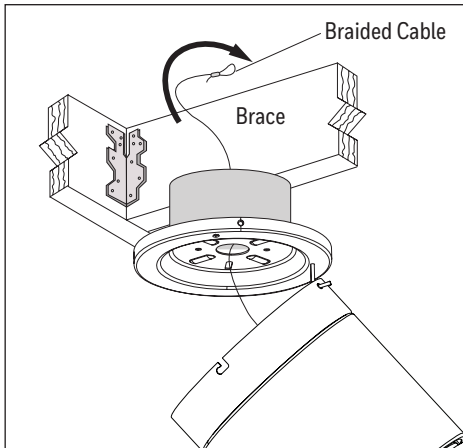

Figure 3.1
- 1. WARNING:** Secondary support is required for this product. Failure to follow the steps below could result in property damage and/or personal injury. Feed the loop of the braided cable, preassembled to the motor assembly, up through the outlet box mounted in the ceiling (Figure 3.1).